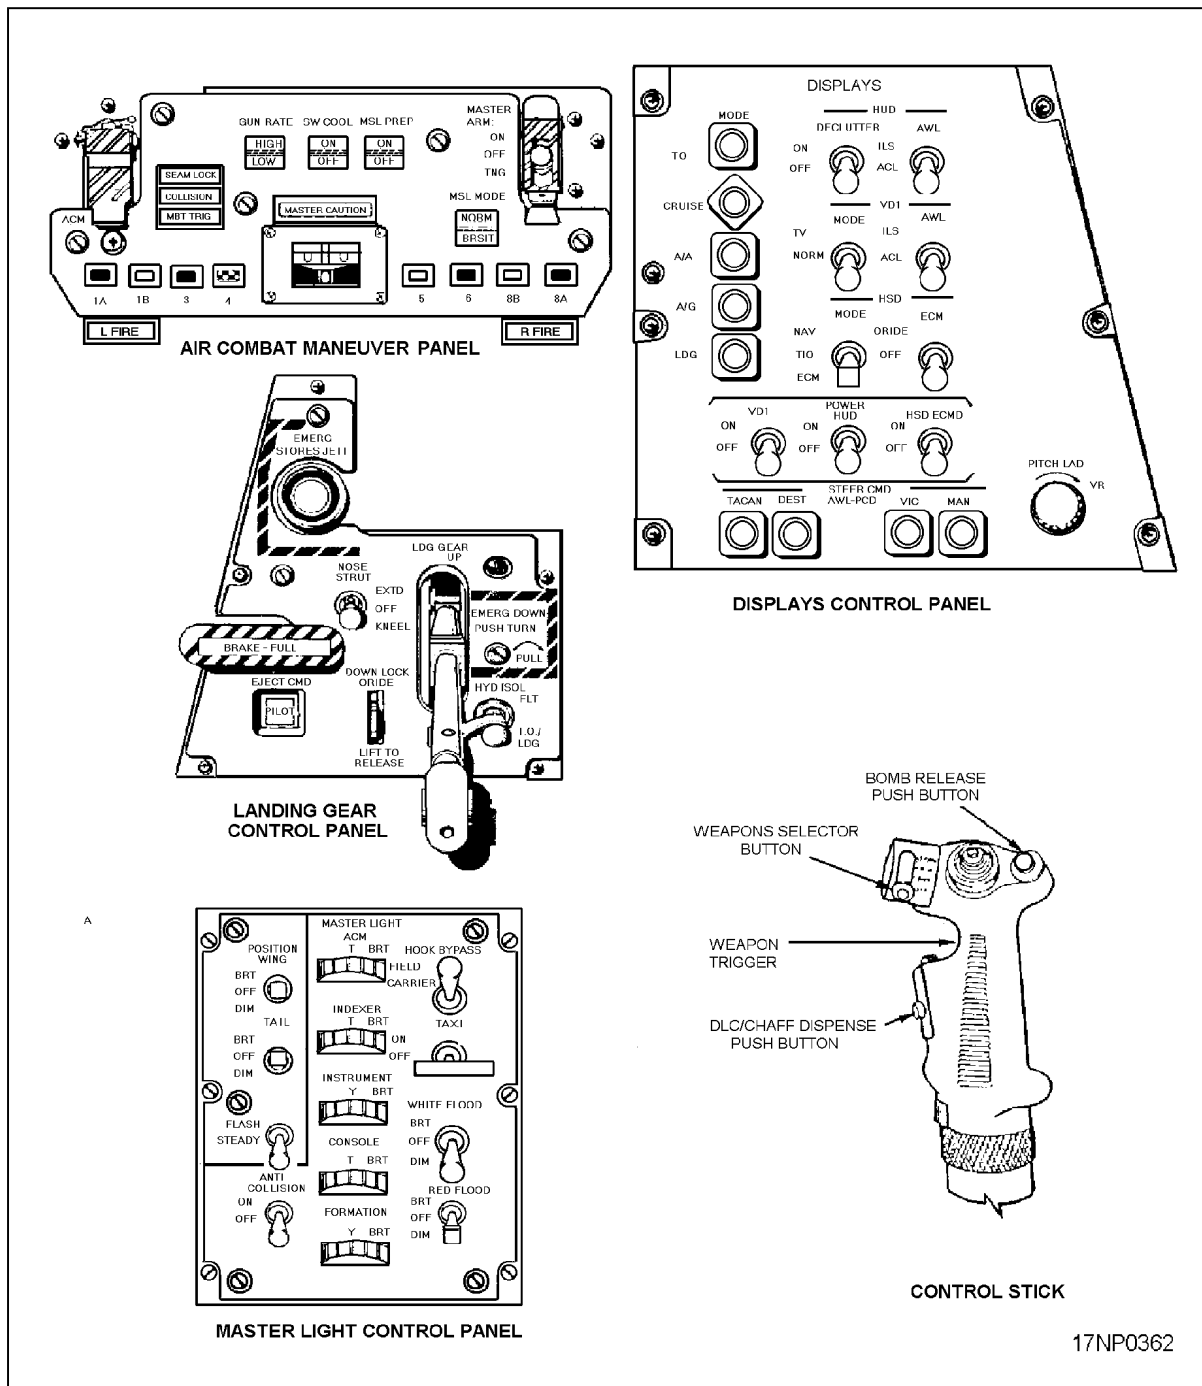

Figure 15-1.—F-14 control panels.
The ACM panel (fig. 15-1) is located on the forward cockpit center console. It contains switches for missile preparation, missile operating mode selection, and for arming the system. Indicators inform the pilot of weapon status, when the missile is locked on the target, and when the missile is ready to be launched. When the ACM encounter mode is selected, gun high-firing rate and the AIM-9 missile cooling are automatically selected. The ACM panel switches are discussed in the following paragraphs.
The displays control panel (fig. 15-1) is located on the forward cockpit's right vertical console. It contains the air/ground mode (A/G MODE) push-button switch
The control stick (fig. 15-1), located in the forward cockpit, contains the weapons selector button, weapon trigger, bomb-release push button, and the DLC/CHAFF DISPENSE push button.
The master light control panel (fig. 15-1) is located on the right side console of the forward cockpit. It contains the ACM thumb-wheel control, which controls the 26 volts of ac to the ACM panel indicator lights.
The landing gear handle (LDG GEAR) handle (fig. 15-1) is located on the left vertical console of the forward cockpit. It operates a switch assembly that functions as an armament safety device. As such, it prevents accidental missile launching, bomb release, rocket firing, and ACM encounter jettison of external weapons/stores when the aircraft is on the ground. Master arm power is prevented when the LDG GEAR handle is in the down (DN) position. When the LDG GEAR handle is in the UP position, the fire control system master arm power is available.
The Sidewinder cool (SW COOL) switch (fig. 15-1) is a two-position, push-button switch on the ACM panel. This switch is used to generate the AIM-9 missile cool signal to cool the missiles. When in the ACM encounter mode, AIM-9 missile cooling is automatically selected, regardless of the SW COOL switch position.
GUN RATE SWITCH. The GUN RATE switch (fig. 15-1) is located on the ACM panel. It is a two-position, push-button, indicator switch that selects HIGH (6,000 rounds per minute) or LOW (4,000 rounds per minute) rate of fire. This switch is only active in the A/G and A/A modes.